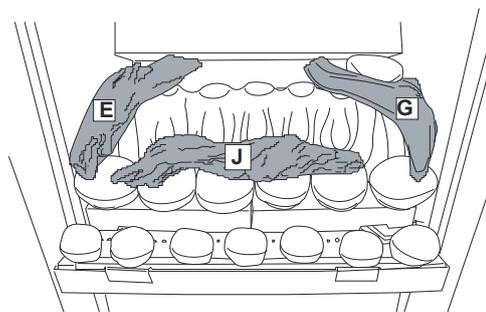

Figure 37
5. Place the **E**, **G** and **J** driftwood pieces as shown in **Figure 37** ensuring correct orientation.